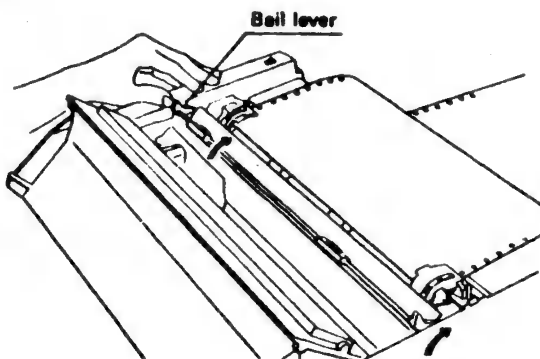

Figure 2-21 Opening the Bail Rollers
- a) Lift up the bail lever to open the bail rollers, as shown in Figure 2-21.
3. Lift the Bail Lever to open the Bail Rollers, as shown in Figure 2-21.